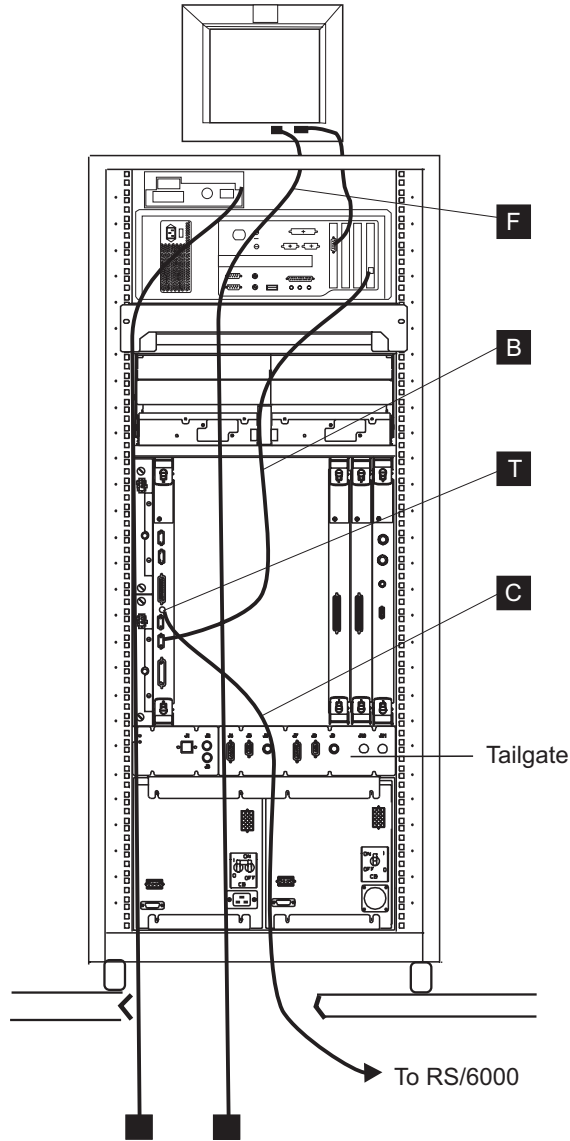

Figure 1-33. Connecting the NAS Installed in a 29U Rack to the APC Card
2. ____ Connect the cables (see Figure 1-33 on page 1-28) to the APC and APC tailgate as follows: